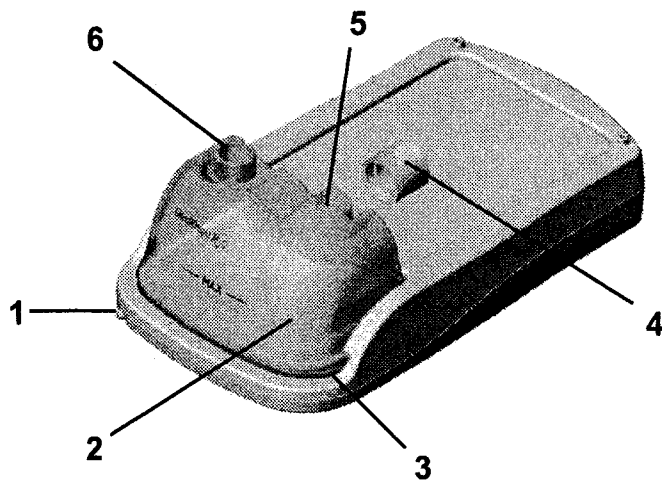

Figure 1 – General view
The elements of the *GoodKnight H2O* heated humidifier are described in Figures 1 and 2.
2. Carefully fill the water chamber with water through the outlet connector opening (Figure 1, item 6, on page 3). Do not fill past the maximum water level mark.
4. Equip the *GoodKnight 425* or *GoodKnight 420* device with the connection adapter provided with the *GoodKnight H2O* heated humidifier (reference 4 of Figure 1 – General view on page 3).
6. Replace the water chamber, being careful to avoid spillage, and ensure that the inlet connector of the humidifier (Figure 1, item 5 on page 3) reaches the thrust on the connection adapter (Figure 1, item 4 on page 3).
8. Connect the breathing circuit to the outlet connector of the humidifier (Figure 1, item 6 on page 3) located on the water chamber.